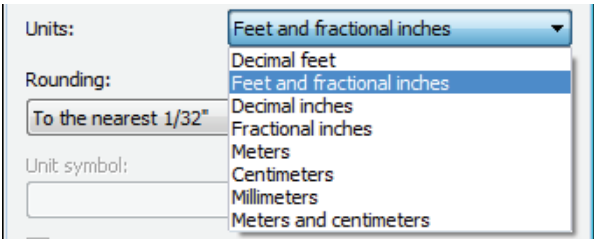

Figure 1–5
**Units** Select the type of units in the *Units* drop-down list, as shown in Figure 1–5.